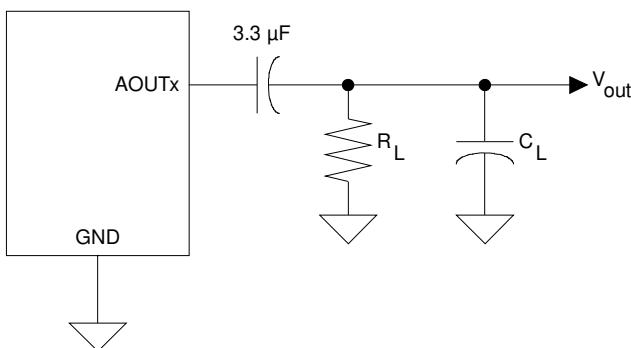

Figure 1. Equivalent Analog Output Load
- 4. See Figures 1 and 2 on page 16. R_L and C_L reflect the minimum resistance and maximum capacitance allowed in order to maintain stability in the internal op-amp. C_L affects the dominant pole of the internal output amp; increasing C_L beyond 100 pF can cause the internal op-amp to become unstable.